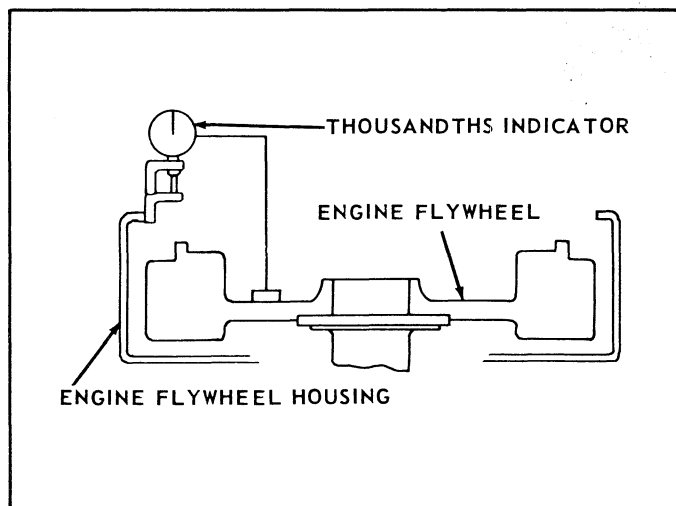

Figure 44. Checking the Driving Ring Pilot Bore of the Engine Flywheel.
E. Checking Driving Ring Pilot Bore of Engine Flywheel. With the indicator bolted as in Paragraph 66D above, adjust the indicator stem so that it will ride on the driving ring pilot bore of the engine flywheel (fig. 44). The driving ring pilot bore eccentricity of the engine flywheel should not exceed .005 inch maximum total indicator reading.